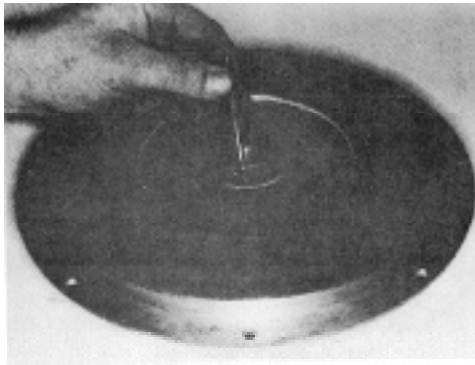

Fig. 10-17, T-524. Checking sealing ring bore in oil seal/diffuser plate
2. Check oil seal/diffuser plate bore for burrs and scoring. Fig. 10-17.